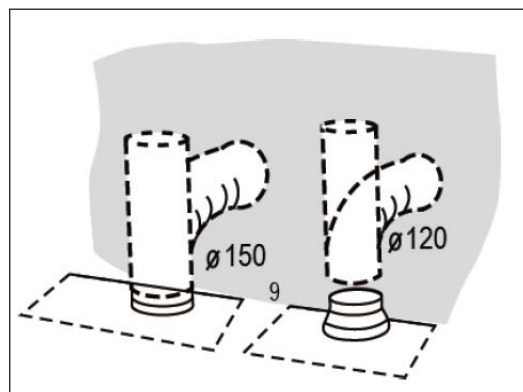

Fig. 8
6. After the hood has been hung, install the flexible outlet duct to the outlet opening (Fig. 8). Use a reducer fitting 150/120 mm in diameter, if required. Insert the second part of the flexible duct in the opening prepared in the wall.